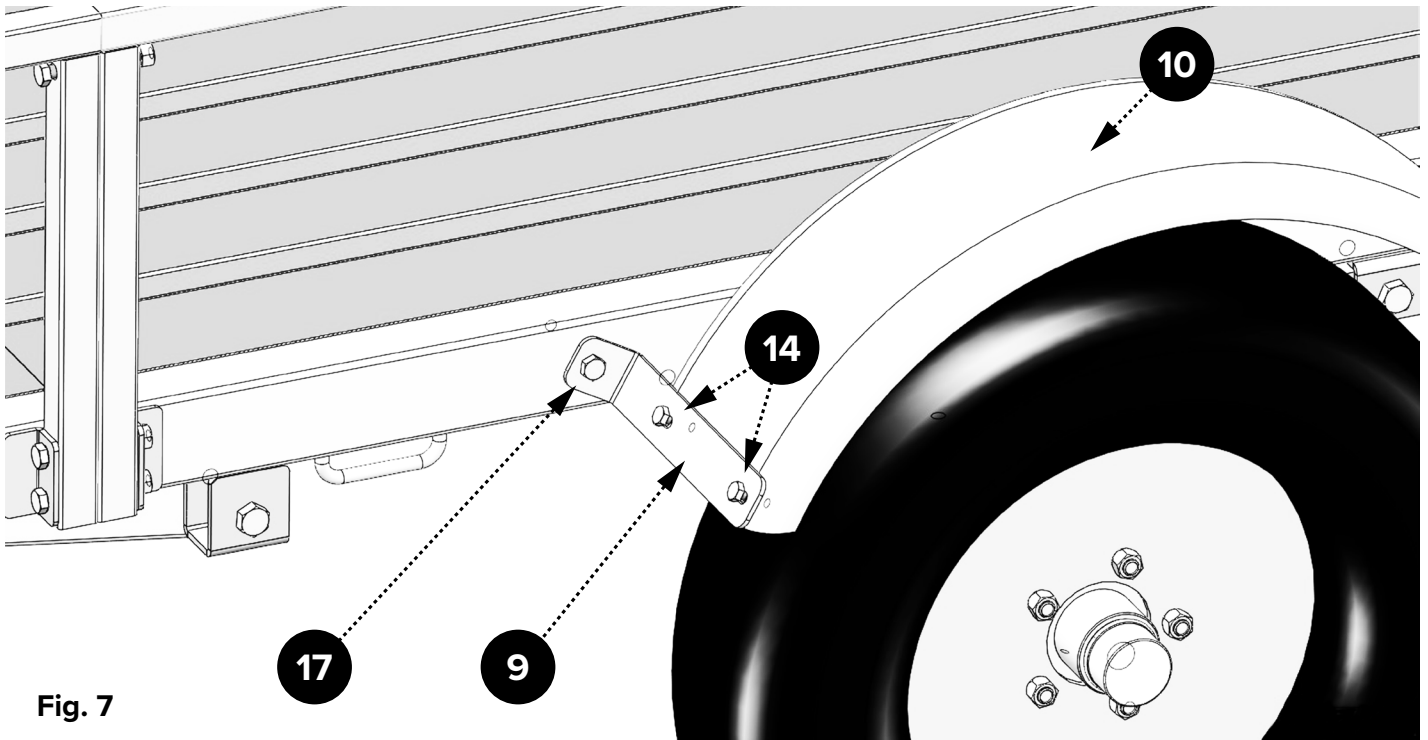

Fig. 7
1. Attach the fenders using M10 x 70 (17) bolts and the L-brackets (9) as shown (Fig. 7).
2. Use the M8 x 25 (14) bolts to connect the fenders between the front and rear L-brackets (9).